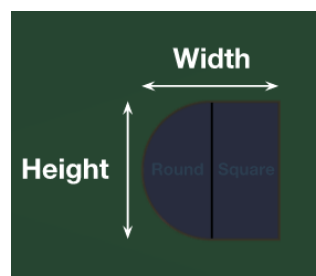

Fig. 13. Specifying core shape and dimensions.
Step 3. Central column dimensions: In this step we will choose between a magnetic core with a round central column or a square one. We also specify its dimensions. This shape will define the future layout of the spirals that comprise our planar (Fig. 13).